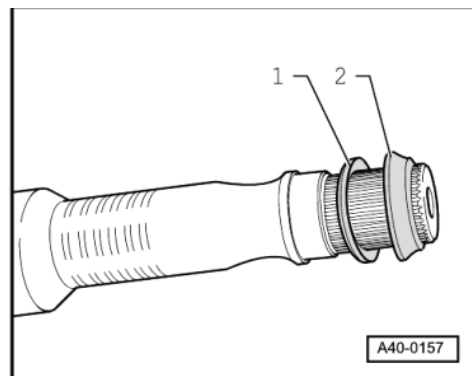

Fig.5 -> Installation position of spacer ring and dished washer (wheel side)
- ♦ Installation position => Fig. 5.